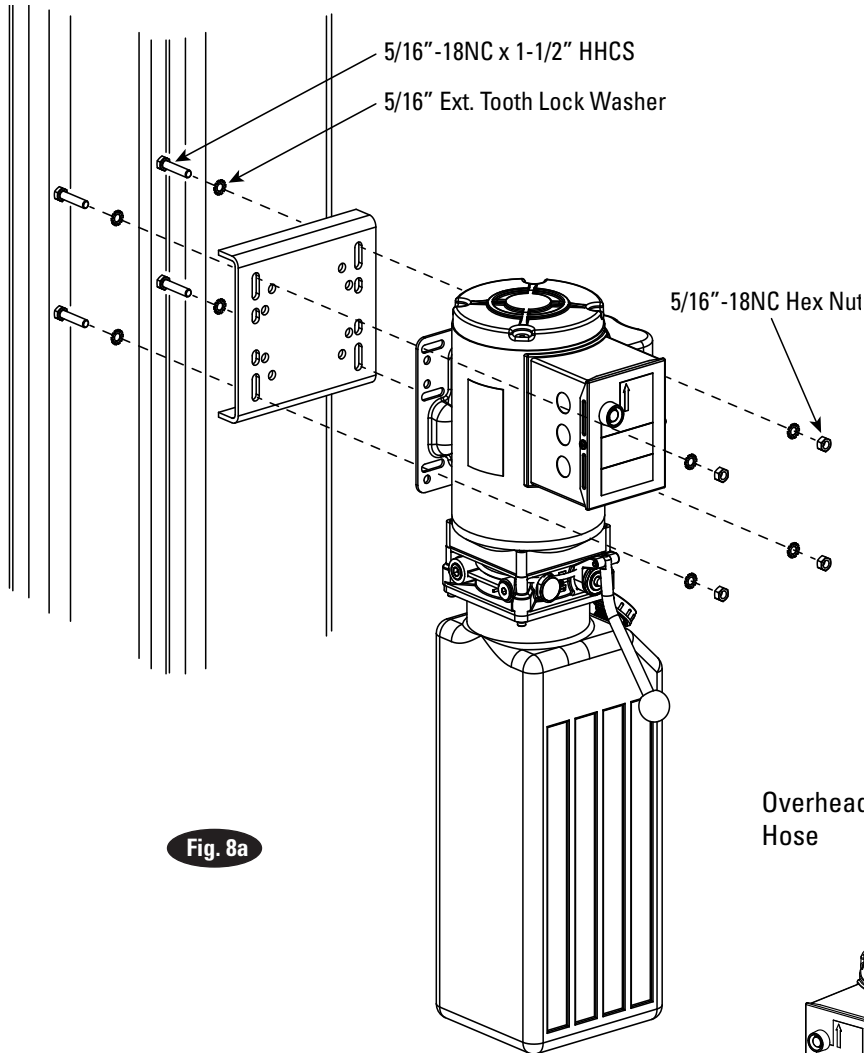
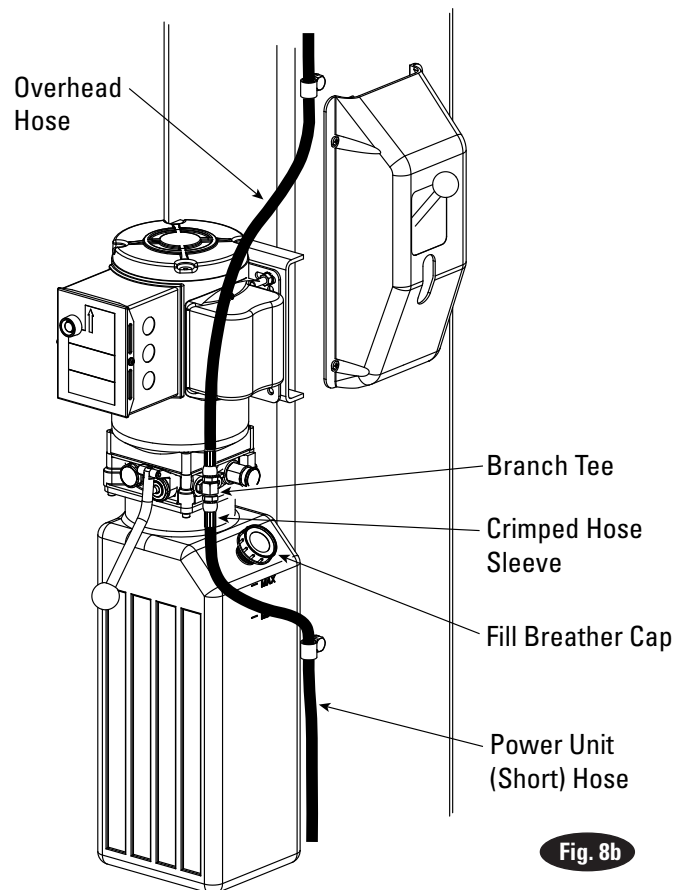

Fig. 8a
Fig. 8b
9. Power Unit: Put the (4) 5/16" -18NC x 1-1/2" HHCS thru holes in power unit bracket using (4) 5/16" Ext. Tooth Lock Washers. Mount power unit with motor up to column bracket and install (4) 5/16" Ext. Tooth Lock Washers and (4) 5/16" -18NC Hex Nuts, Fig. 8a. Install and hand tighten Branch Tee to pump until O-ring is seated. Continue to tighten the locknut to 10-15 ft-lbs., or until the nut and washer bottom out against the pump manifold, Fig. 8b.
10. Hoses: Clean adapters and hose. Inspect all threads for damage and hose ends to be sure they are crimped, Fig. 8b. Install hose and hose clamps, Fig. 9.
- Attach Mounting Bracket on column as shown in Fig. 16a using (2) 5/16" -18NC x 1-1/2" HHCS, (2) 5/16" -18NC Hex Nuts, and (2) 5/16" Ext. Tooth Washers, shown in Fig. 8a.
- Attach Control Box to Bracket using (4) 1/4" -20NC x 1/2" HHCS, (4) 1/4" Flat Washers, and (4) 1/4" Star Washers.